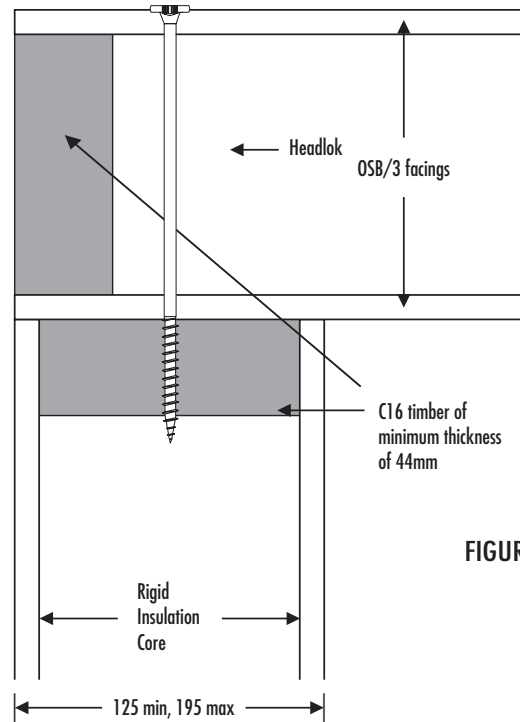

FIGURE 1
- The Headlok fastener is inserted such that its plain shank just penetrates the solid timber member. In those cases where the point of the Headlok fastener exits the far side of the timber a minimum of 38mm of thread length must still be in the timber. See figure 1.